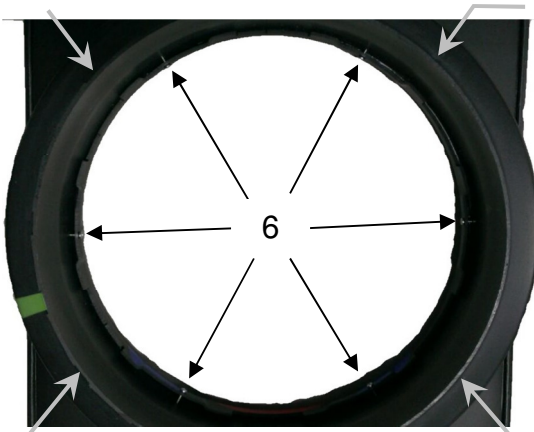
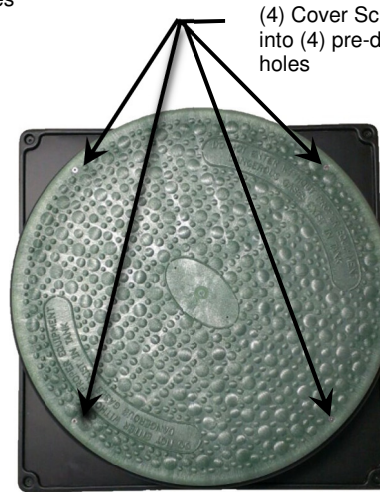
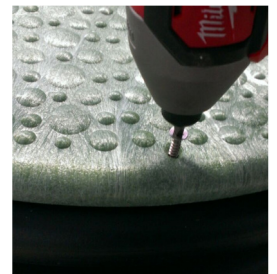

Figure 5
Figure 10
Figure 11
- 3.) With the (4) pre-drilled holes upward (Fig. 5) & (Fig. 10), center the riser pipe on the adapter flange so the gap is even all of the way around. Do not apply downward pressure while adjusting the gap. When the even gap is achieved, lightly lower the riser pipe onto the butyl rope. As required, make final adjustment and apply firm downward pressure to seat the riser pipe into the butyl rope. Apply the pressure all around the riser pipe every 30 degrees.
- 4.) Locate the six (6) mounting holes on the inside perimeter of the adapter flange. Install six (6) screws to attach the riser pipe to the adapter flange. Drive the screws with the screw tilted upward following the pre-drilled hole until the head slightly compresses the adapter flange (Fig 3.). When properly tightened there will be approximately a 1/4" gap between the riser flange and the riser pipe (Fig. 4). All six screws must be visible when complete (Fig. 5).
- 6.) Locate the six mounting slots on the safety barrier (Fig. 6). Insert the safety barrier into the riser ensuring the six mounting slots align with the 6 screws (Fig 5), (Fig. 6) & (Fig. 7).
- 16.) ***Always re-install (4) cover security screws and tighten with appropriate driver tool to secure Riser Cover to Riser Pipe (Fig.10) & (Fig. 11)***